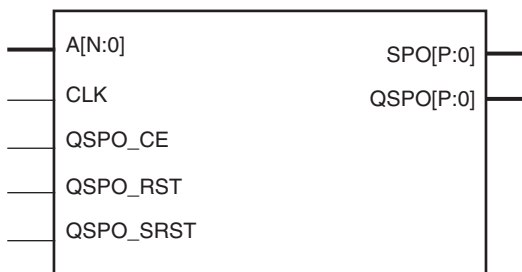
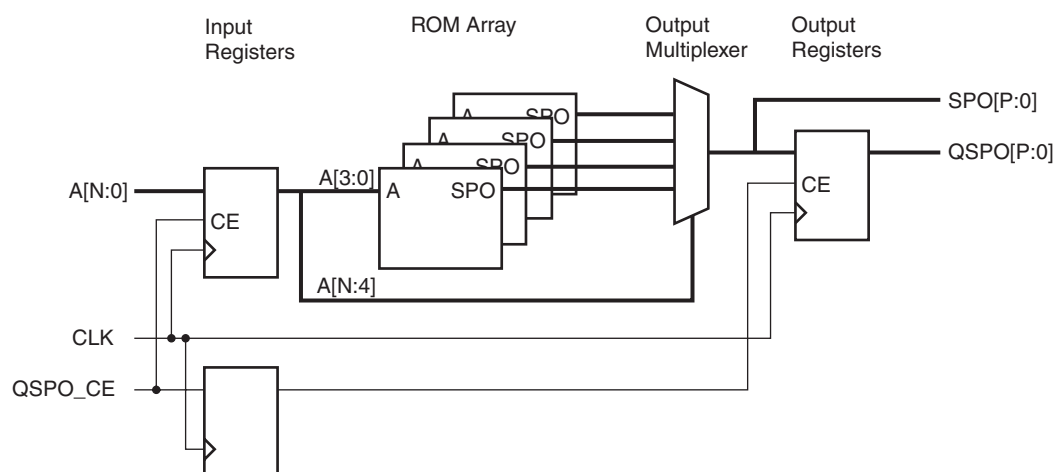

Figure 1: Distributed ROM Schematic Symbol
Figure 2: Distributed ROM Module Schematic
To create the distributed ROM, the core parses the initialization data provided by the user-supplied COE file. From that data, any necessary logic or optional registering is inferred and created. **Figure 1** shows the distributed ROM schematic symbol, and **Figure 2** illustrates one of the possible implementations of a distributed ROM core. For distributed ROM timing information, see the user guide for the specific platform-related architecture.
- **ROM.** **Figure 2** illustrates a schematic of the structure of the ROM modules. The address register is optional (controlled by the setting of the Input Options parameter). Output registering is also optional (controlled by the setting of the Output Options parameter). Note that the clock is not required when these registers are not present. The resets and clock enables are optional.